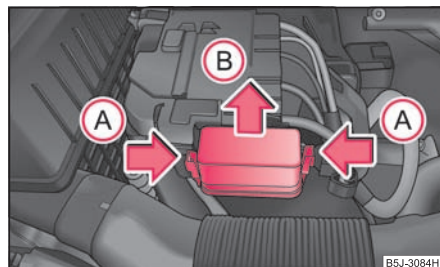

Fig. 207 The battery: fuse cover
- Press together ⇒ fig. 207 the interlocks of the fuse cover simultaneously in direction of arrow (A) and push out the cover in direction of arrow (B).